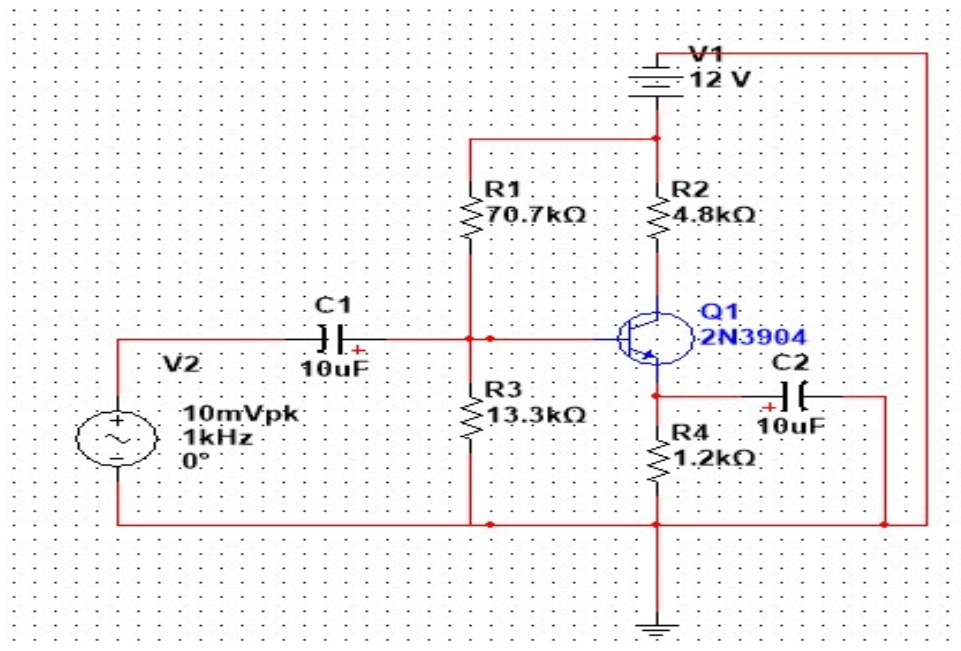

Fig. 6: Class A Power amplifier (practical circuit)
1. Build the circuit as shown in figure 6.